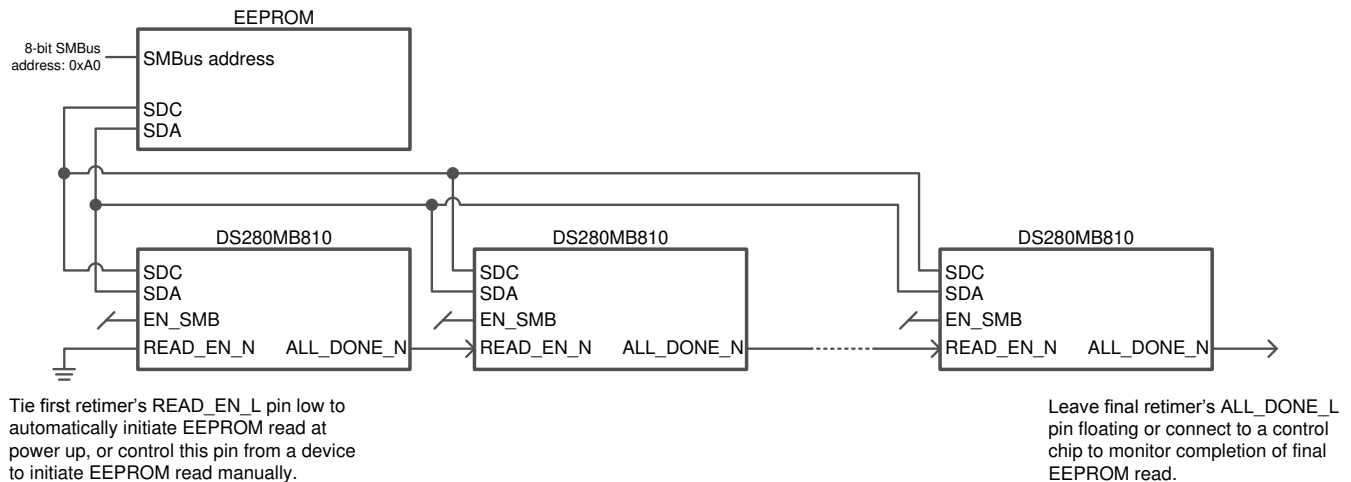

Figure 8-4. Example daisy chain for multiple device, single EEPROM configuration
- If multiple DS280MB810 devices share a single EEPROM, connect the ALL_DONE_N output of the first device to the READ_EN_N input of the next device, as shown in Figure 8-4.